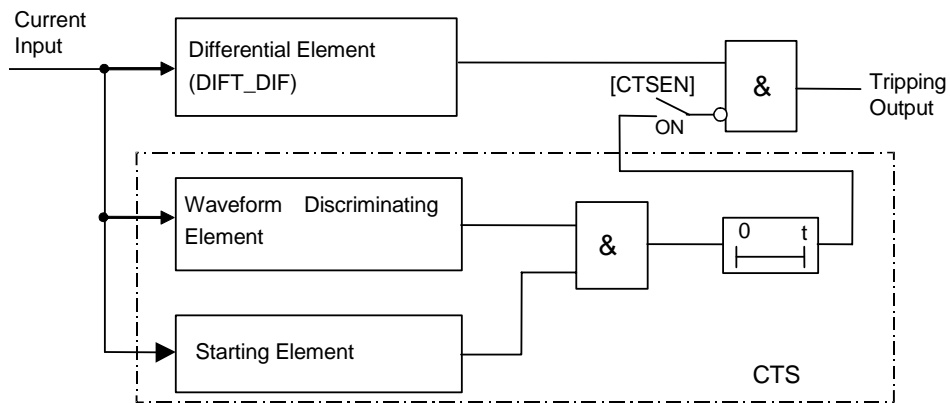

Figure 2.2.2.1 Differential Element with CT Saturation Countermeasure
Figure 2.2.2.1 shows a block diagram of the CT saturation countermeasure (CTS). The CTS has a waveform discriminating element (WDE) and starting element (SE). WDE operates if the change in the instantaneous value of the differential current is less than a specified percentage of the change in the instantaneous value of the restraining current. In the CTs non-saturated period, the differential current is theoretically zero for through-fault currents. The element operates in this period.